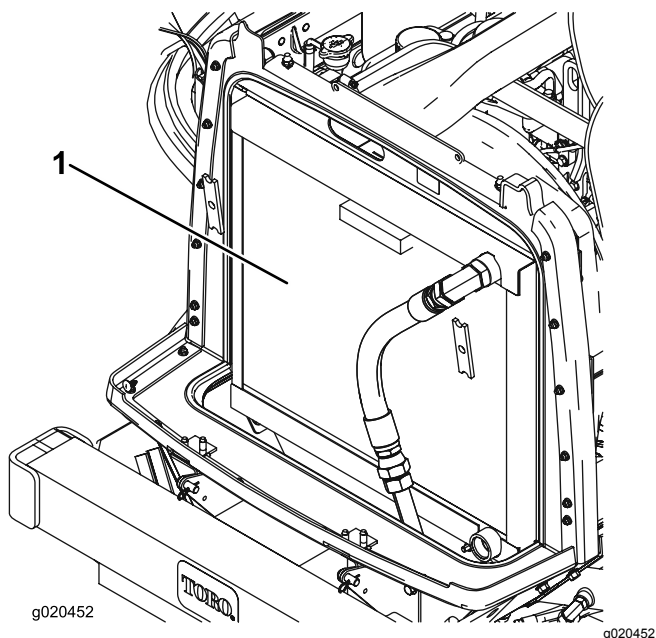

Figure 96
3. Clean both sides of the radiator/oil cooler area thoroughly with compressed air (Figure 96).